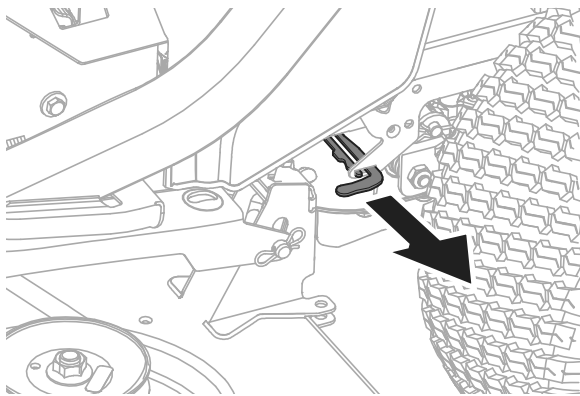

Figure 2
1. To engage the transmission bypass tabs, pull tab out. Repeat on opposite side (Figure 2).